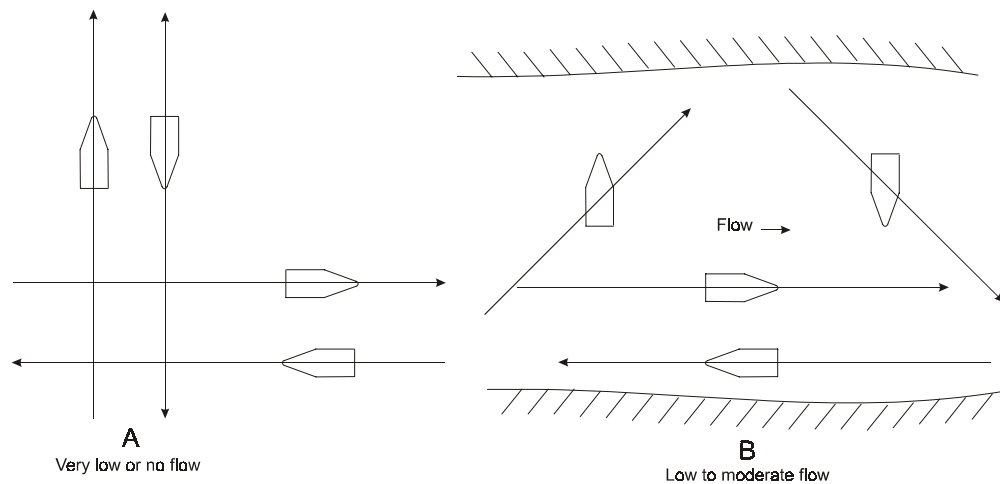

Figure 21. Reciprocal Constant Heading Tracks for Determining Magnetic Variation
- g. Drive a straight track with constant heading (accelerate slowly and maintain a slow steady speed) for at least 200 meters (the longer the course the better) as shown in Figure 21, page 67. Monitor the heading display in the **Standard Tabular** view, and adjust your course to stay on a constant heading (not a constant course).
- i. Drive a track along the opposite heading direction as shown in Figure 21, page 67. Press **F5** to start recording.